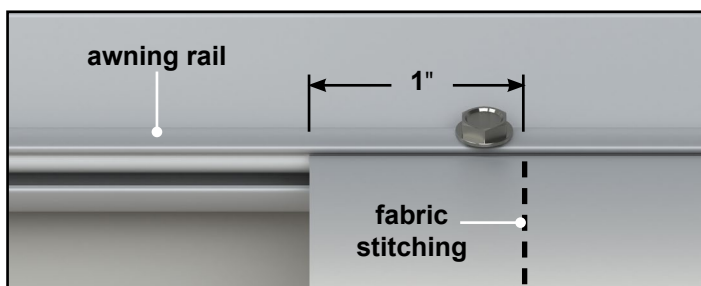

Fig.19
15. Secure the fabric in the awning rail no more than 1" inside the edge of the fabric on both ends using a #6 x 1/2" hex head screw. Install the screw down through the awning rail into the fabric and the polycord (Fig.19).